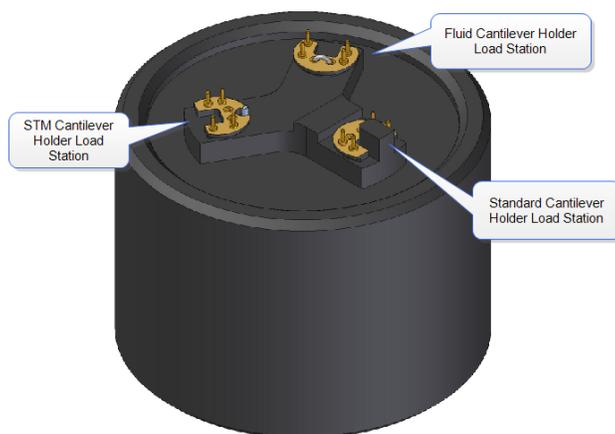

Figure 1. Probe holder
- 6) Loading the probe. The probe holder, Figure 1, should be in the black cylindrical case or in a clear plastic case on the desk. Load the desired probe into the probe holder by withdrawing the metal clip, using tweezers to transfer your probe, and replacing the clip. Probe sitting straight up is preferred. Hold the probe holder securely